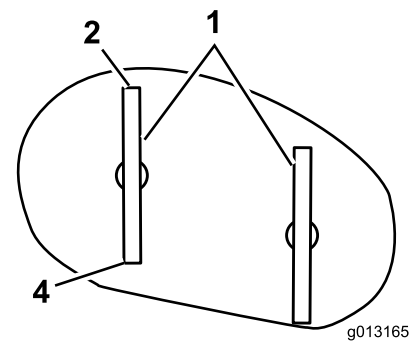

Figure 46
7. Measure the distance between the front tip of the left blade and the flat surface (Figure 46).
6. Move the height-of-cut lever to the middle (4) position. Carefully rotate the blades front to rear (Figure 46).